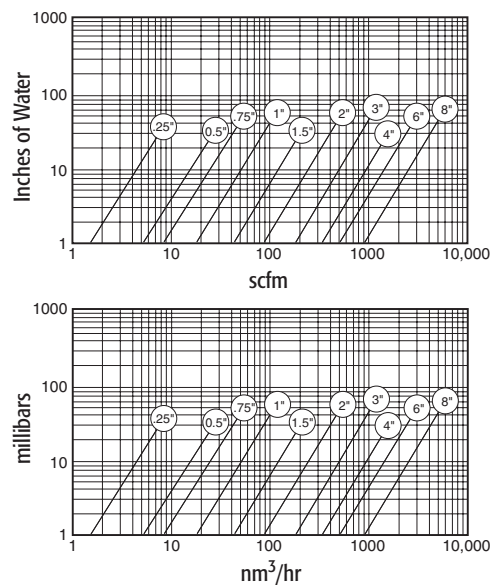

Figure 1: Insertion 4" to 36" (10.2 to 91.4 cm)
Insertion Flowmeter Probe Lengths (LL) – see figure 1 = 4.0(10.2), 6.0(15.2), 9.0(22.9), 12.0(30.5), 15.0 (38.1), 18.0(45.7), 24.0(61.0), 30.0(76.2), 36.0(91.4)